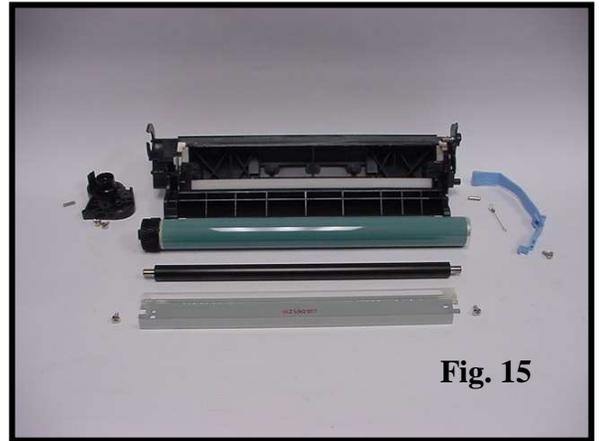

Fig. 15
15. Clean or replace all components. Clean all contacts of conductive grease and re-apply. The drum stabilizer as well as the blue handle and tension spring are put back onto the cartridge once the two halves have been connected with cartridge pins. The remainder of the components in the waste bin can be reassembled at this time (Fig. 15).